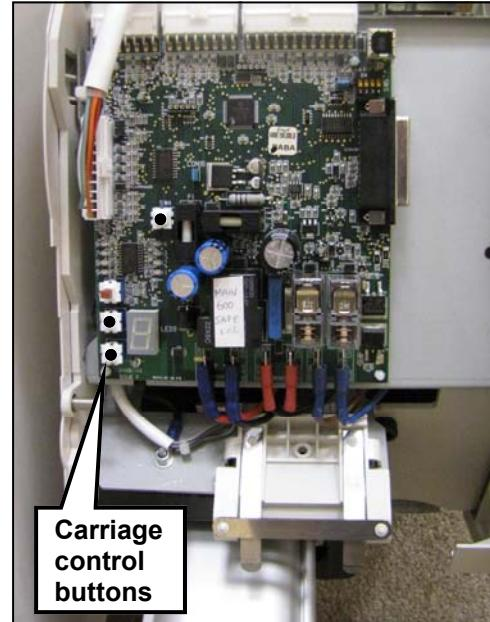

Figure 2
- Using a suitable tool, (suggest screwdriver minimum length 100mm or 4"), gently lift the OSG actuating arm whilst driving the stairlift in a downward direction **via the ECU mounted carriage controls buttons** Fig 2, until the OSG switch cuts out the stairlift.